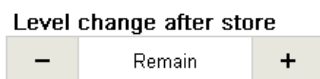

Figure 162
**Level change after store:** Movement of the volume level when Store or No Response is selected (Figure 162). Choose between: **Default level, -30 dB, -20 dB, -10 dB, Remain, +10 dB, +20 dB.**